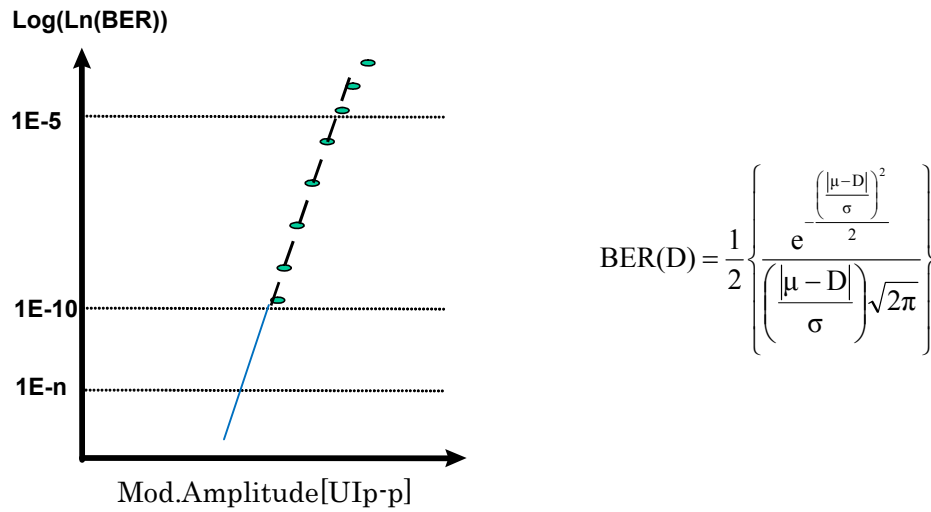

Figure 4.7.3-1 Noise Distribution Estimate and BER Estimate Calculation
The distribution parameters σ and μ can be determined by measuring the correlation with jitter modulation (SJ) for bitter error rate over a particular range as shown in Figure 4.7.3-1. Jitter modulation estimate curves for jitter modulation frequencies can be calculated for any particular error rate using the equation in the distribution Figure 4.7.3-1.
Intermediate results as shown in Figure 4.7.3-2 can be obtained for settings as shown in Table 4.6.2-1.